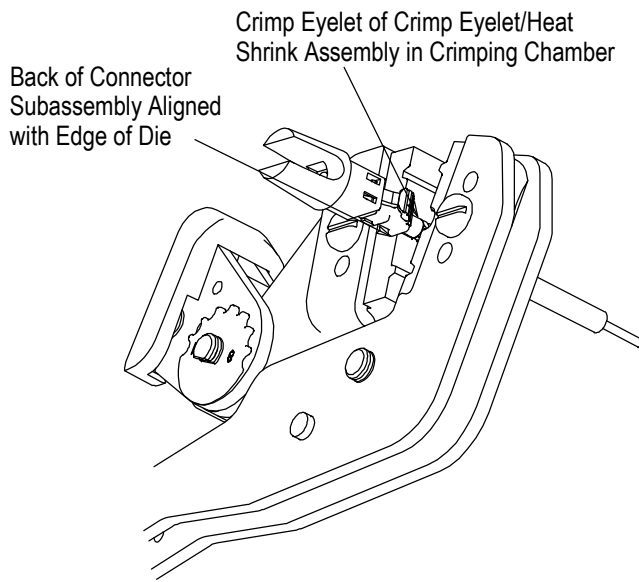

Figure 9
4. Install the die into the hand tool frame. Position the crimp eyelet of the crimp eyelet/heat shrink assembly into the crimping chamber of the die. See Figure 9.